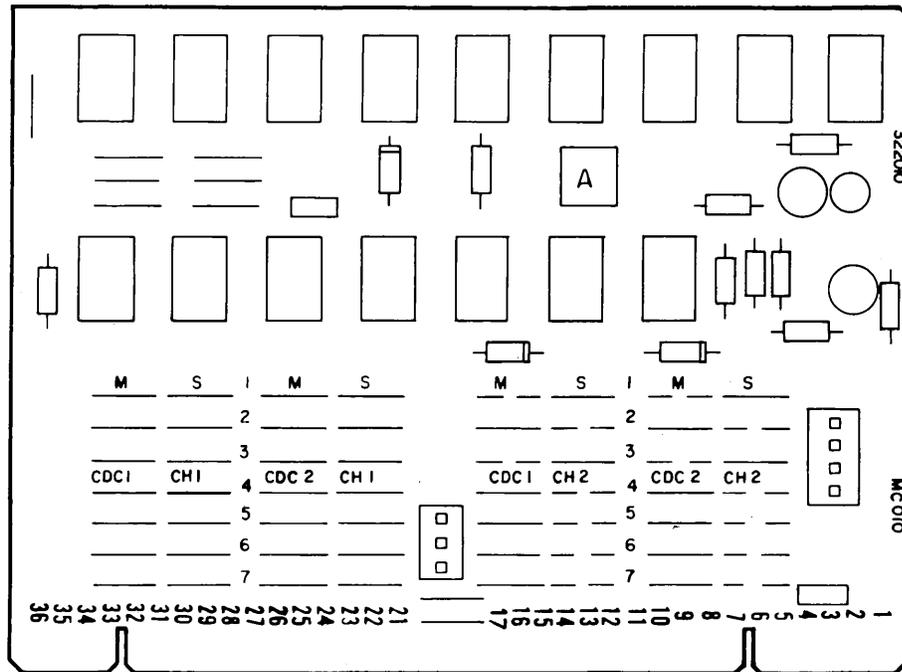

Figure 7 - CDC Programming - Card A
3.06 As an example, the straps to be cut to program the character G (bits 1, 2, 3, and 7 marking) are shown in Figure 6. CDC codes are programmed on card A, in position A (Figure 7).